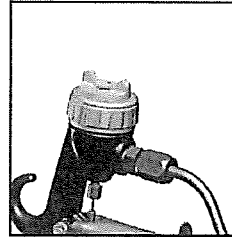

Fig. 39
4. Install the air cap and air cap ring assembly onto the gun until it is fully hand tightened. (See fig 39)